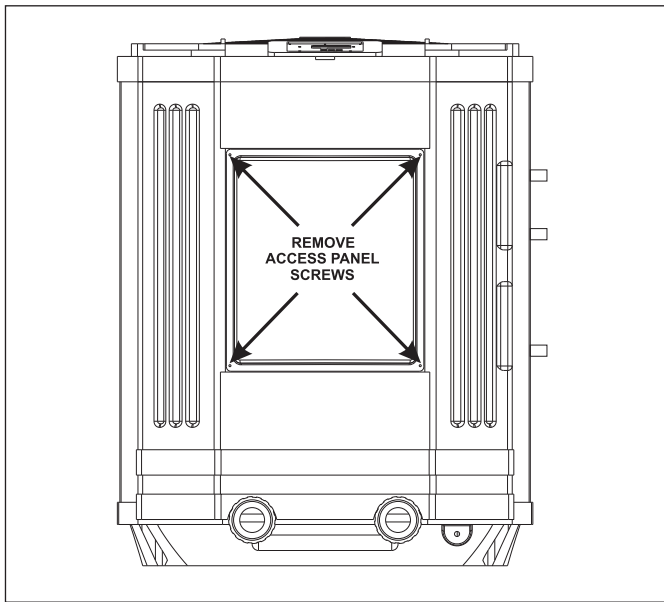
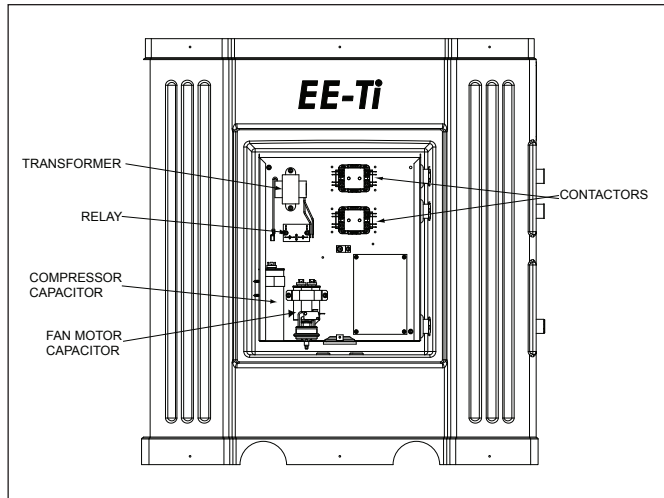

Figure 1. Remove Access Panel
Figure 2a. Locate Components - Single Phase Units
1. Remove the four (4) screws that hold the access panel of the component compartment to the front of the heater. (See Figure 1). Remove the panel.
2. Remove one (1) screw and remove the junction box cover.
3. Locate the component that you plan to disconnect. See Figures 2a and 2b or Figures 14 or 15 for wiring diagrams.